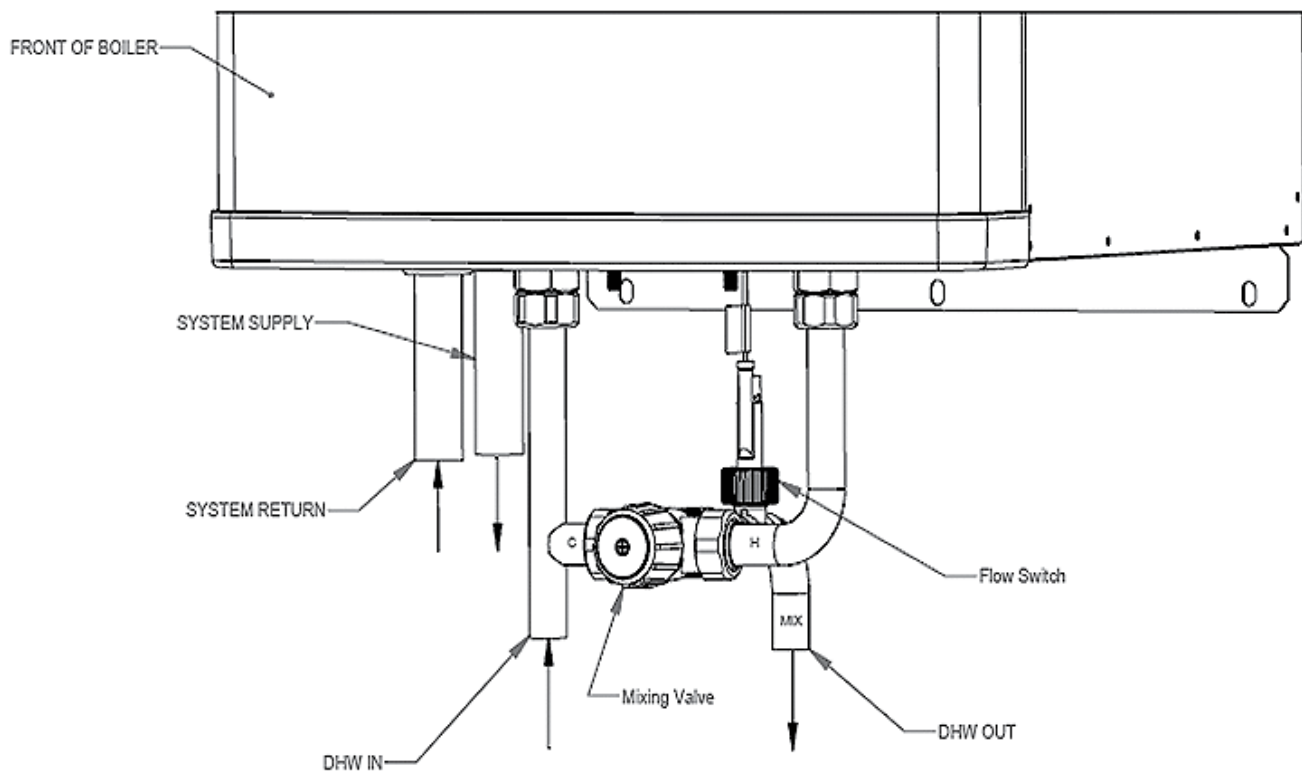

Figure C.1: Combi Piping Assembly Outside of Jacket
2. Install boiler per installation instructions. Attach supply and return piping at bottom of jacket (See Figure C.1).